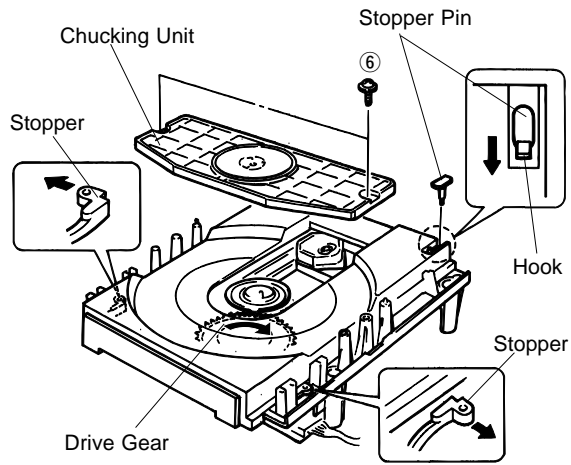

Fig. 3
- a. Remove 2 screws (⑥) and then remove the Chucking Unit in Fig. 3.
- b. Remove 1 hook and then remove the Stopper Pin in Fig. 3.
- c. Rotate the Drive Gear and then open the Tray Unit in Fig. 3.
- d. Detach the Stoppers on both sides and then pull out the Tray in Fig. 3.